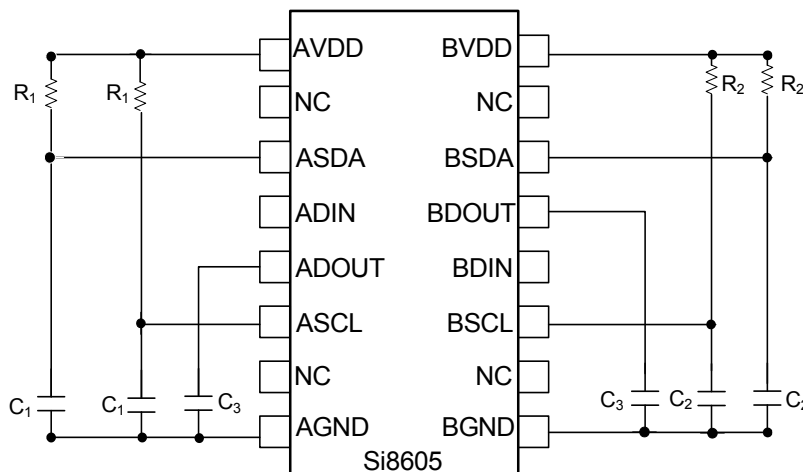
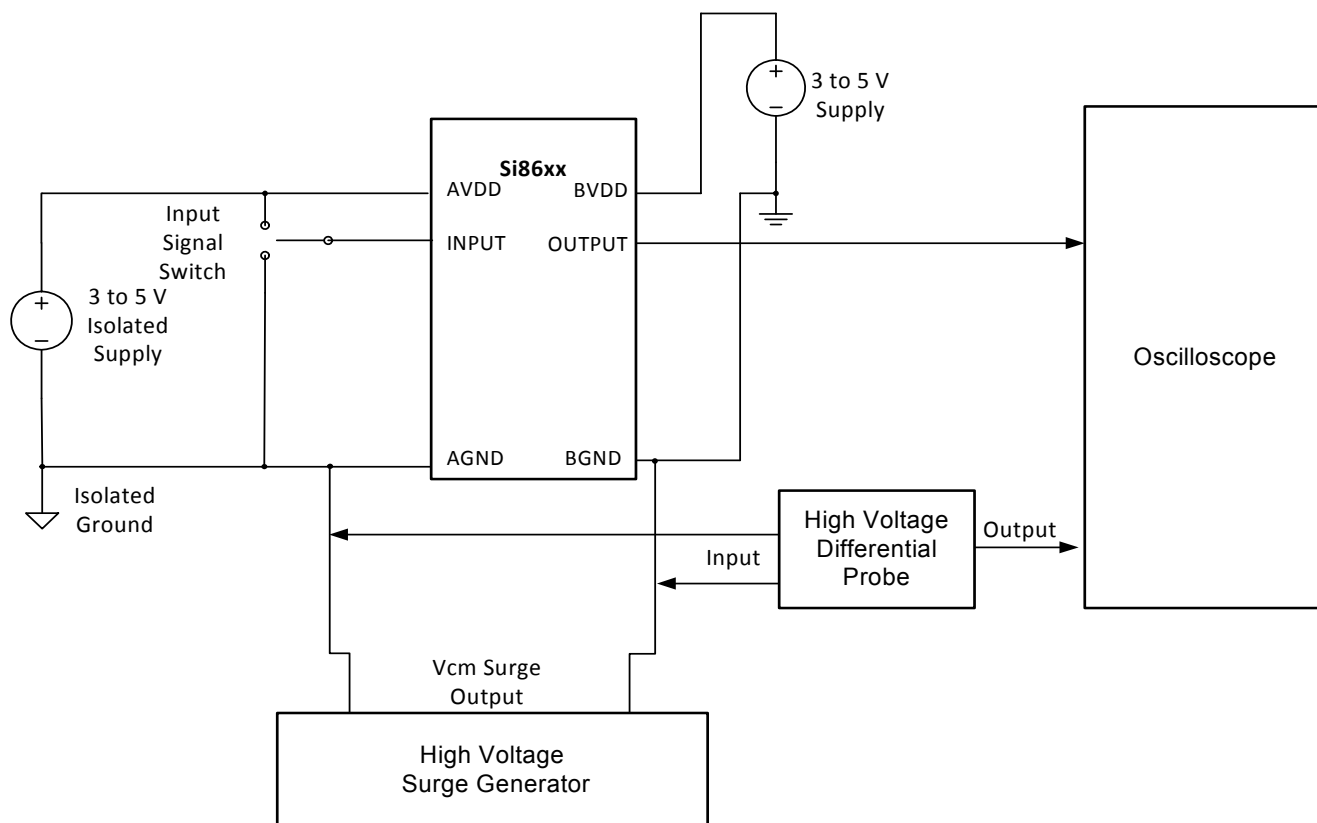

Figure 2. Simplified Timing Test Diagram
Figure 3. Common Mode Transient Immunity Test Circuit
3.0 V &lt; VDD &lt; 5.5 V. TA = -40 to +125 °C. Typical specs at 25 °C (See Figures 2 and 10 for test diagrams.)
| Side B to Side A Falling                                                                                                                                                                                                                                                                                 | Tplba  | See Figure 2        | —   | 11  | 22  | ns   |
| 3.3 V                                                                                                                                                                                                                                                                                                    |        | See Figure 2        |     |     |     |      |
| Output Rise Time                                                                                                                                                                                                                                                                                                                                                                                         | t r                      | C 3 = 15 pFSee Figure 1 andFigure 2 | —                  | 2.5  | 4.0  | ns   |
| Output Fall Time                                                                                                                                                                                                                                                                                                                                                                                         | t f                      | C 3 = 15 pFSee Figure 1 andFigure 2 | —                  | 2.5  | 4.0  | ns   |
| Common Mode Transient Immunity | CMTI               | V I = V DD or 0 VV CM = 1500 V (see Figure 3) | 35   | 50   | —     | kV/μs |
Figure 2 depicts the timing test diagram; Figure 3 depicts the CMTI test diagram.